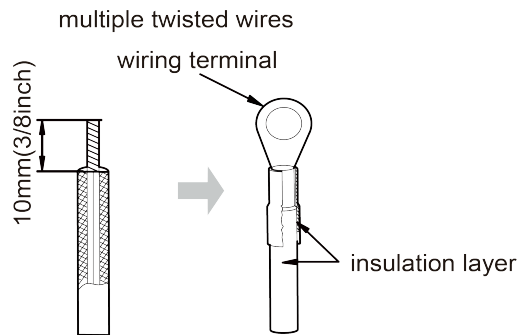

Fig. 5.1.2
- (2) The connection of stranded wire (as shown in Fig. 5.1.2).